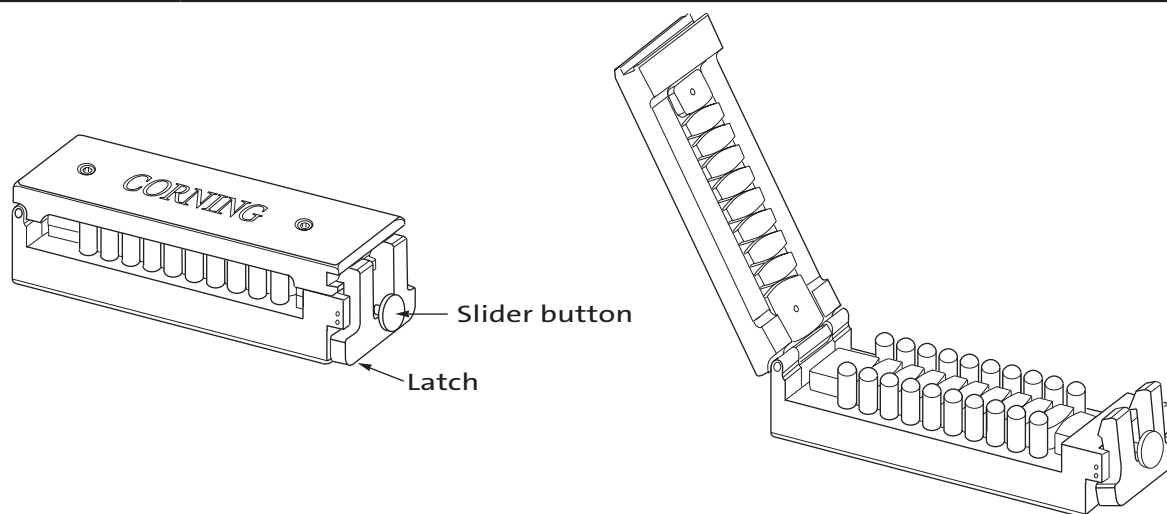

Figure 1
1.1 This procedure describes how to divide fiber optic ribbons with the Corning Optical Communications Ribbon Splitting Tool (p/n RST-000) (Figure 1). Both mid-span and end-of-ribbon applications are covered in this procedure.